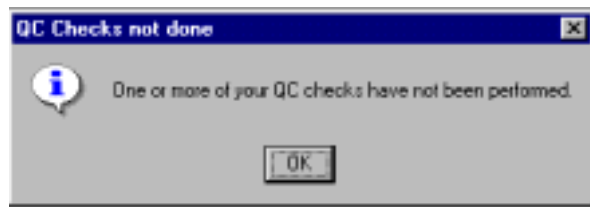

Figure 6-16. Quality control reminder message box
- When you log onto the application before the quality control checks are performed, the system displays a message: ‘One or more of your QC checks have not been performed.’ See Figure 6-16.